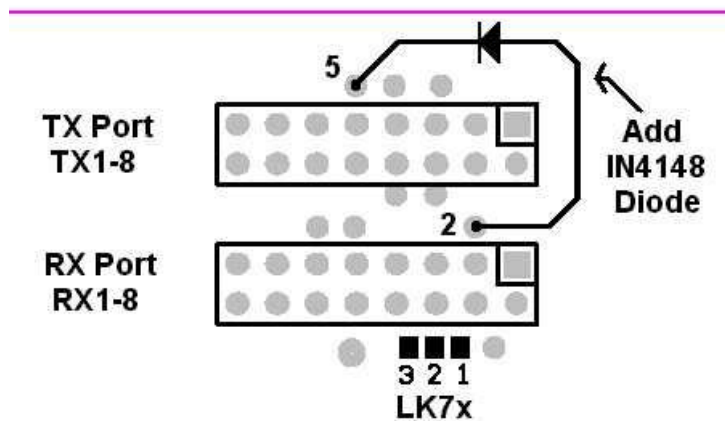

Figure 10
3. On top of the A800-SIM PCB, connect the cathode of a diode to the TX port pin 5. Refer to Figure 10.
5. Connect the anode of the diode to the RX port pin 2. Refer to Figure 10.